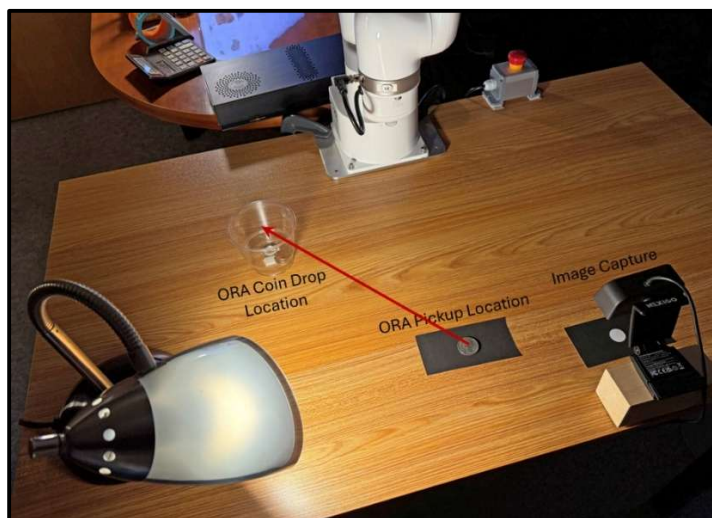

Figure 1
Figure 1 shows the setup for this challenge. A camera is mounted so that it can get a good closeup view of the coin, *directly above the coin* to avoid distortion. With the camera in the way, ORA cannot pick up the coin from the camera location. Therefore, the coin is *manually* placed on the white dot with a black background that helps the LLM distinguish the coin from the background. The coin is then *manually* moved to the ORA pickup location. ORA then picks up the coin with the vacuum gripper. The vacuum gripper works well as it is soft and flexible enough to conform to the shape of the coin's face. Finally, ORA moves the coin and drops it into the collection cup. Strong
2. Make sure that the **Emergency Stop Button**, also shown in the upper-right side of Figure 1, is within easy reach. It might even be a good idea to have one student with his or her hand above the button when the program is started, in the event that it becomes necessary to instantly terminate all motion of ORA's arm and cancel any commands.